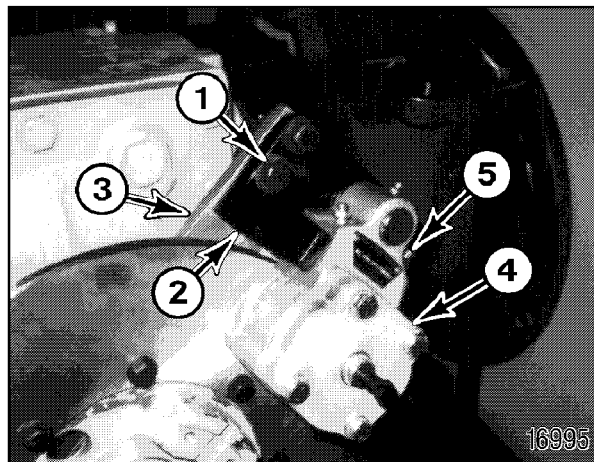

Figure 6
4. Remove four hex nuts, eight flat washers and four bolts (1, Figure 6) securing caliper mount assembly (2) to parking brake bracket (3).
5. With caliper mount assembly (2, Figure 6) and caliper (4) removed from parking brake bracket (3), turn parking/emergency brake release valve (1, Figure 4) fully CCW to open it, and allow the caliper return to the "APPLIED" position. This should relieve all hydraulic oil pressure.
6. Disconnect hose from fitting (5, Figure 6). Plug hose to prevent contamination from entering hydraulic oil system.
7. Remove fitting (5, Figure 6) and O-ring from caliper (4). Plug port in caliper to prevent contamination from entering it.